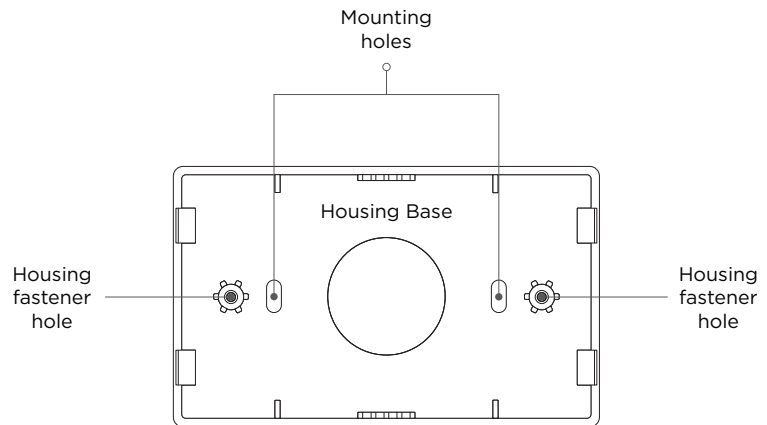

Figure 2: Mounting Hole Locations
2. Insert screws through the desired mounting holes on the housing base. Refer to Figure 2 for mounting hole locations.